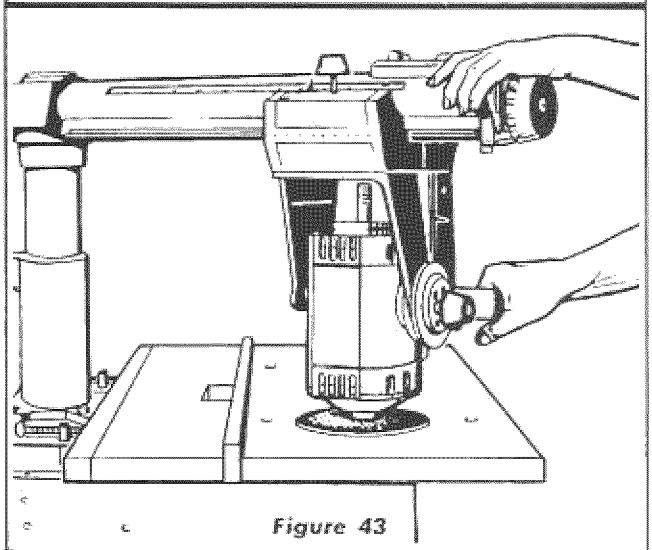

Figure 43
2. When sanding the table top or routing with the work stationary, the arm lock pin can be prevented from automatically indexing at 0° and 45° by loosening the arm latch handle to provide free movement of arm. (See figure 43.)
3. There is a possibility that during or after shipment, the wood front table; spacer board, or rear table might become slightly warped. Lay a straight edge across the surface of the table and check for gaps or high spots on the table. Any portions of the table which are not flat should be planed and sanded until flat. Sanding can be done by using one of the two key chucks referred to under "Routing" and a Craftsman moulded rubber 6-inch sanding disc. (Refer to figure 43.)